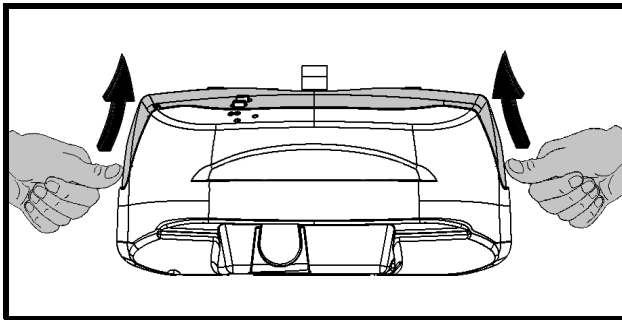

Fig. 2
- 4) Unsnap and completely remove the panel by pushing on both ends (see Fig. 2), this will expose the batteries.
- 2) Unsnap and completely remove the bottom panel by pushing on both ends (see Fig. 2).